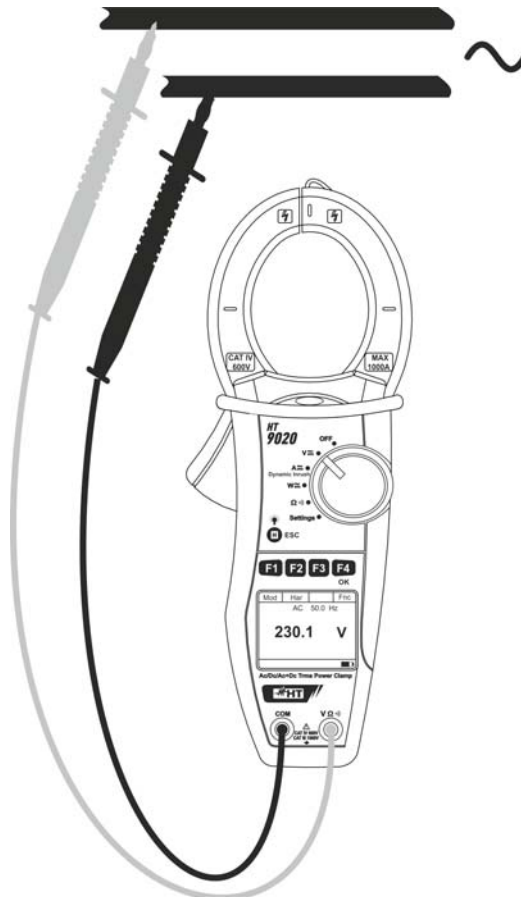

Fig. 6: AC/AC + DC voltage measurement
4. Connect red cable to input lead **VΩ $\frac{1}{2}$**) and black cable to input lead **COM** then position the leads to the desired points of the circuit under test (see Fig. 6)